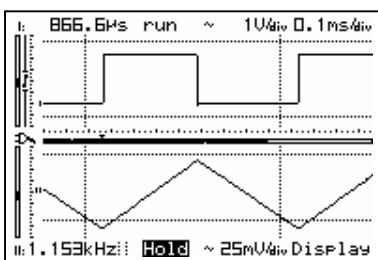

Fig 16
- **Markers:** Moveable markers allow measurement of the signal (**Fig. 16**).